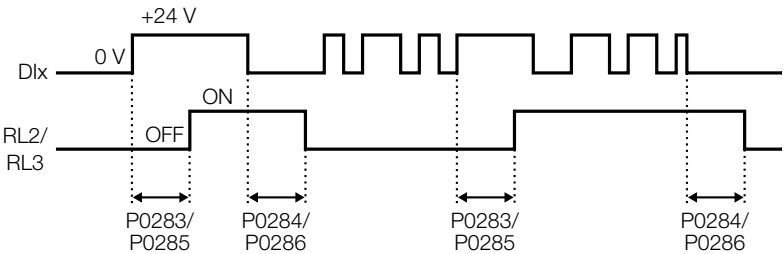

Figure 5.34 – RL2 and RL3 timer function operation
- Refer to Table 5.41 on page 5-55, the Figure 5.32 on page 5-53 and Figure 5.34 on page 5-54 for further details regarding the functions of the digital inputs.
- **‘RL2 and RL3 Timer’**: this function acts as a timer to activate and deactivate the relays 2 and 3 (RL2 and RL3). When the timer function for the relay 2 or 3 is programmed at any DIx, and a transition from open to closed occurs, the programmed relay will be activated with the delay set in P0283 (RL2) or P0285 (RL3). When a transition from closed to open occurs, the programmed relay will be deactivated with the delay adjusted in P0284 (RL2) or P0286 (RL3). After the transition of the DIx, either for activating or deactivating the programmed relay, it is necessary that the DIx remains closed or open during at least the time set in P0283/P0285 and P0284/P0286. Otherwise, the timer will be reset. Refer to the Figure 5.34 on page 5-54. **Note:** In order to enable that function it is also necessary to program P0279 and/or P0280 = 29 (Timer).